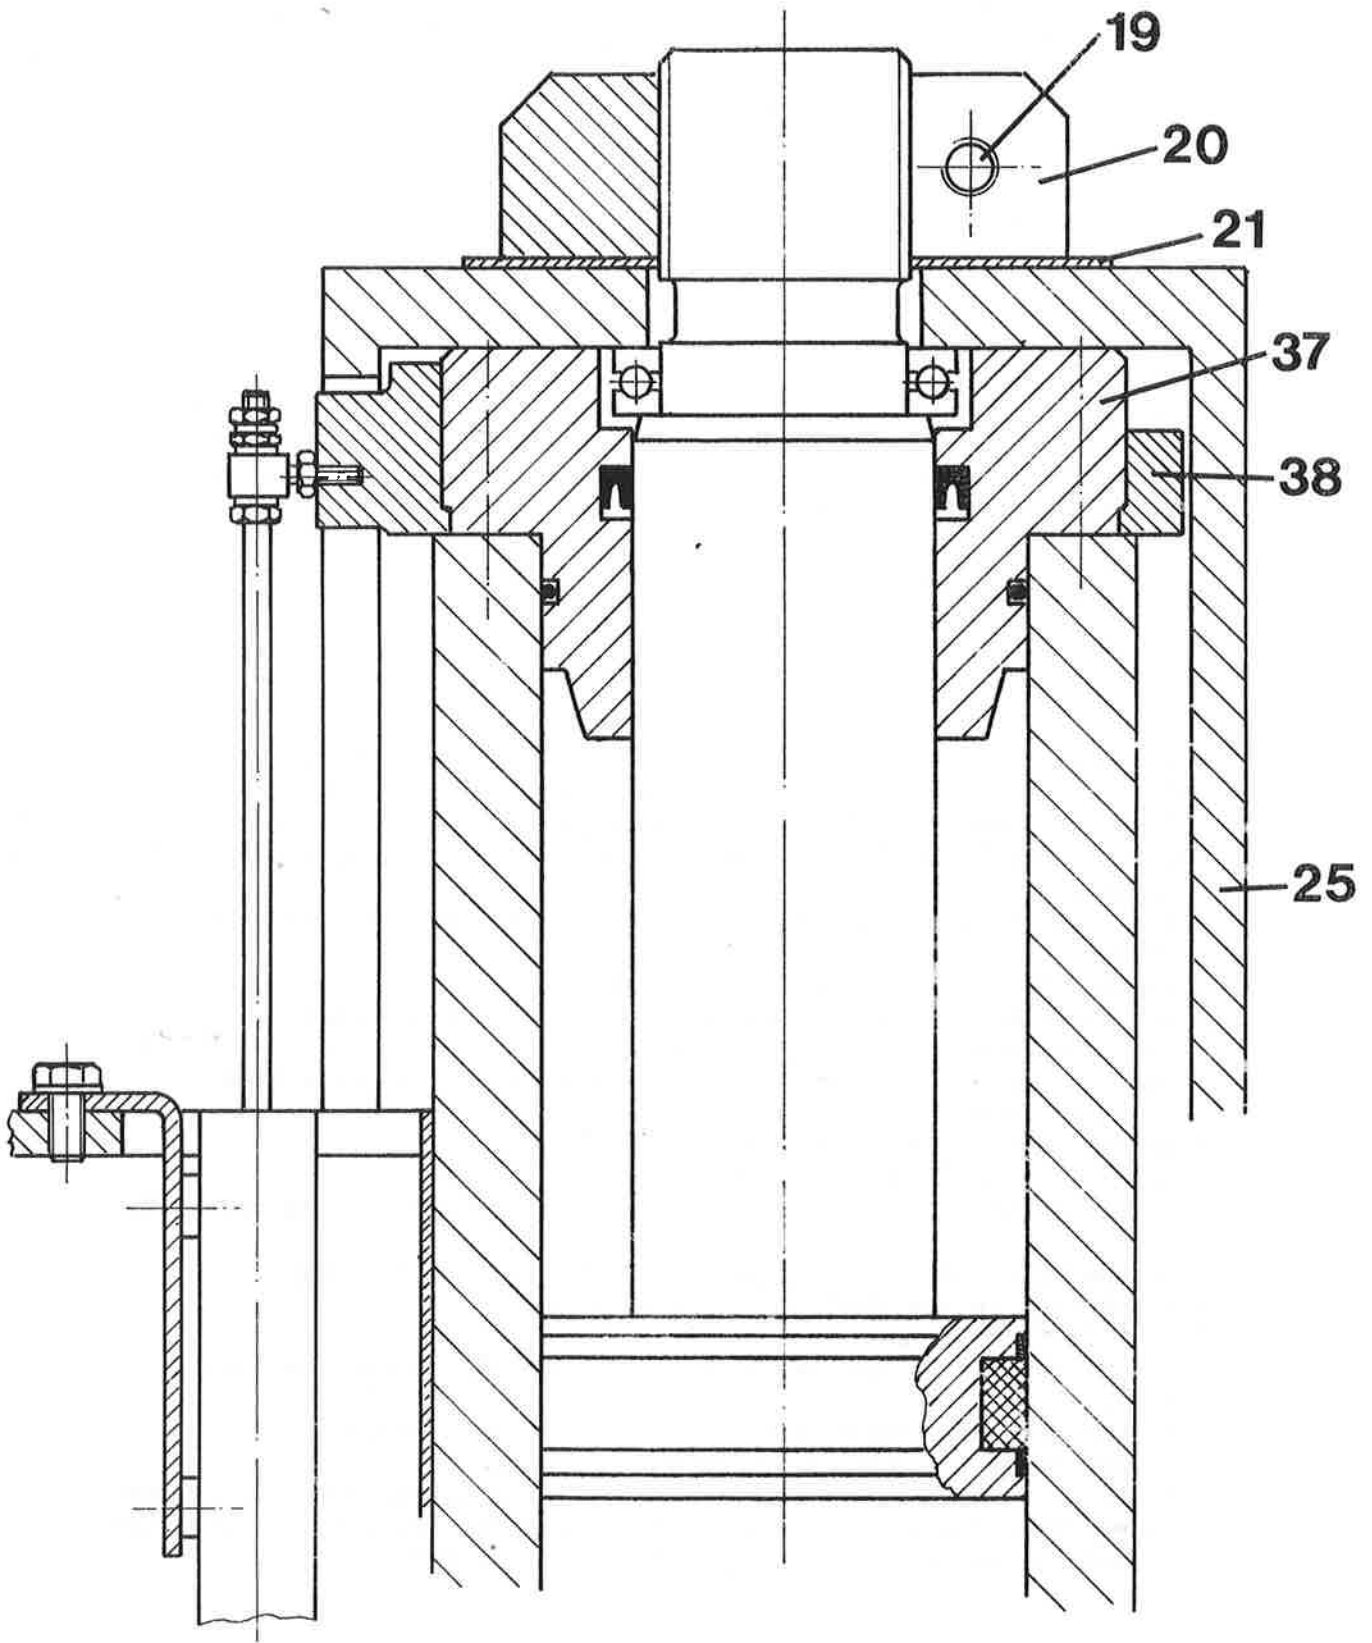

Fig. 8
- Grease contact surfaces between disk 21 (Fig. 8) and nut 20, using heat resistant bearing grease. Loosen screw 19 and unscrew nut 20 for this end.